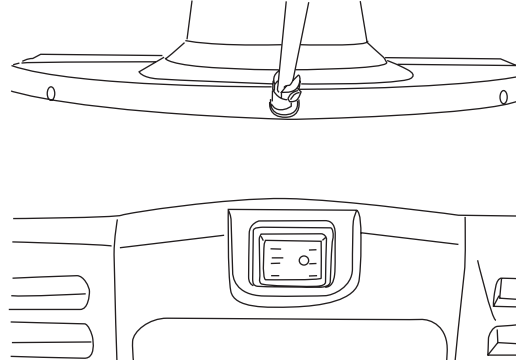

Figure 17
4. The halogen light could be used to lighten the forward road in the dark by turning on the switch on the backside of snow thrower (Fig. 17).